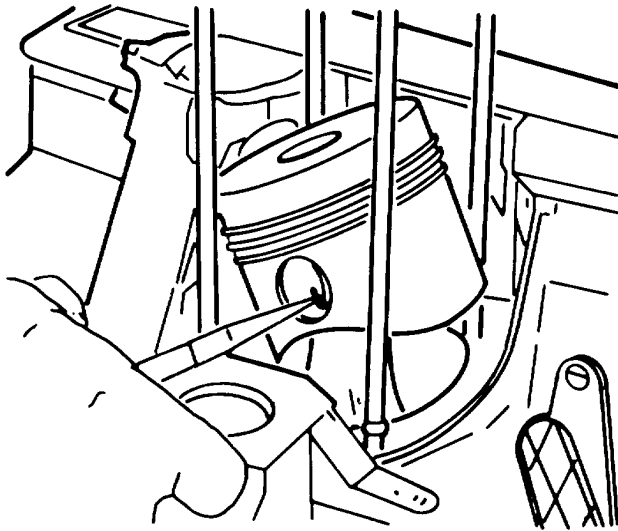

Figure A-16. Piston
m. Piston. Slowly rotate the flywheel until the piston reaches the top of its stroke. With a needle nose pliers, remove the piston pin retainer on the governor side of the engine. (Figure A-16.)